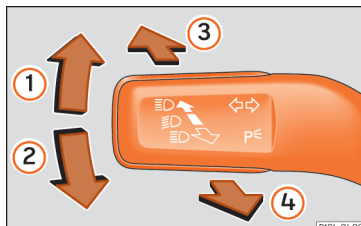

Fig. 116 Turn signal and main beam lever.
- From the base position, press the turn signal and main beam headlights lever forwards » **Fig. 116** .
- **OR:** if the main beam assist is on, pull the turn signal and main beam headlight lever backwards » **Fig. 116** .